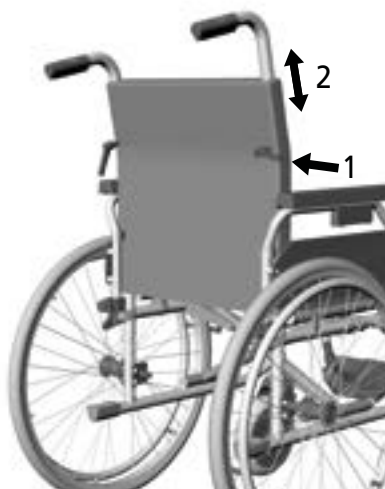

fig. 23
1. First, loosen the clamping lever screw on the back of the backrest. (1, fig. 23).
2. Now you can pull the tube of the push handle up into the desired position. (2, fig. 23).